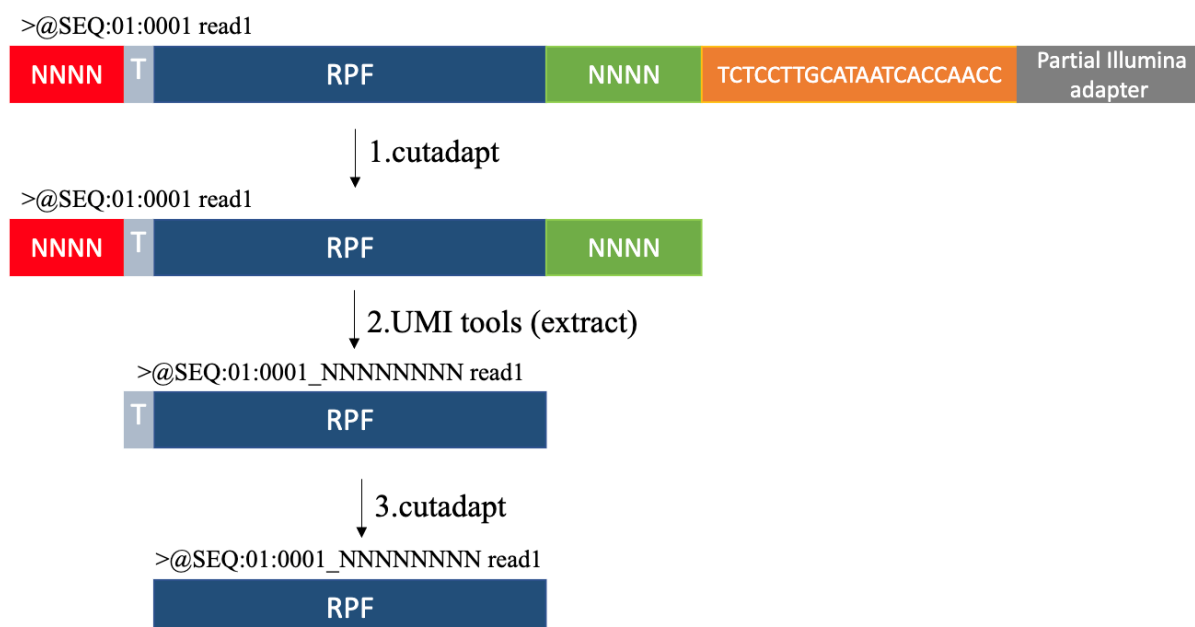

Figure 3. UMI extraction and trimming step schematic. The RPF extraction is done in 3 steps: linker removal, UMI extraction, T removal.
- **C8.1** Excise the library band at ~ 200- nt according to M2 (see Figure 3); take care not to excise the ~170 nt adaptor dimers band!
Fig.3 Example of library run on 10% TBE gel. The library is 200 nt length, while the adaptor dimer is 170 nt. Please note that the part that needs to be cut is exactly the band at 200 nt, leaving the whiskies out as depicted in the white rectangle on right gel. The sharper the cut, the lower the quantity of adaptor dimer that remains in the final library.